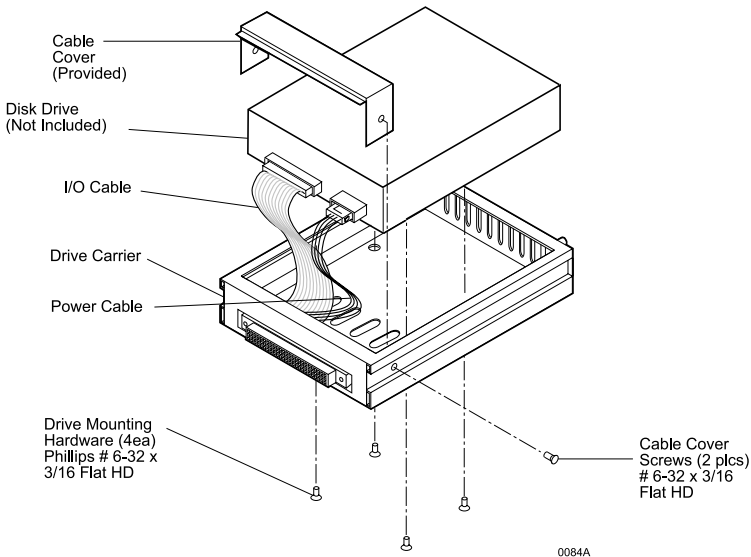

Figure 7: Drive Installation Assembly
1. Attach the I/O cable on the drive carrier circuit board to the drive. Refer to Figure 7 for an illustration of the installation process.
2. Attach the power cable on the drive carrier circuit board to the drive. Carefully insert the drive into the drive carrier at an angle, cable-end first. **Make sure none of the cables are pinched.** Lower the front of the drive carefully into place. Fasten the drive into the carrier with the four (4) screws provided as shown in Figure 7.